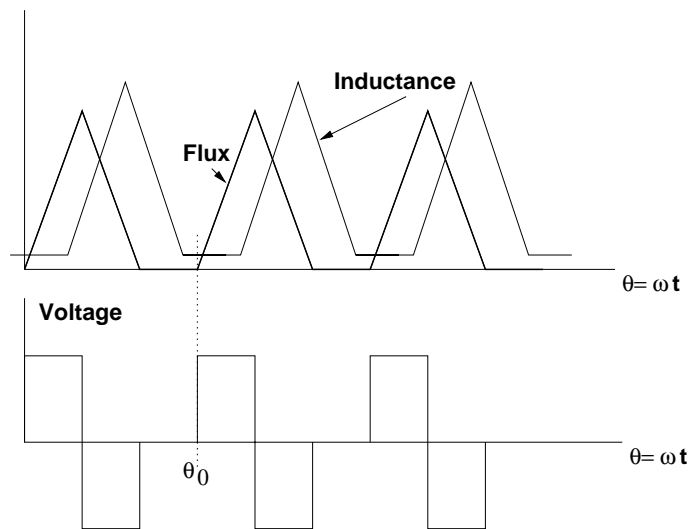

Figure 4: Operating Strategy
The machine is to be operated as shown in Figure 4. For each phase, voltage is applied, driving flux up to the maximum at which point the switches are turned off. Current continues to flow through the diodes of the drive circuit (not shown here), putting negative voltage across the phase until current (and flux) goes to zero. Note that the angle at which the voltage pulse starts, θ_0 , could vary over a wide range and is a control parameter. For the purposes of this problem assume that the width of the triangular pulse of flux is the same as the overlap angle ($\pi/3$).
- Now the machine is to be operated at a steady speed of 1000 RPM. Find and calculate the time average torque as a function of the starting angle θ_0 . Assume the machine is operated as shown in Figure 4 with flux having a triangular pulse form and consequently voltage having positive and negative square pulses. Remember your voltage pulse may overlap more than one variation in inductance.